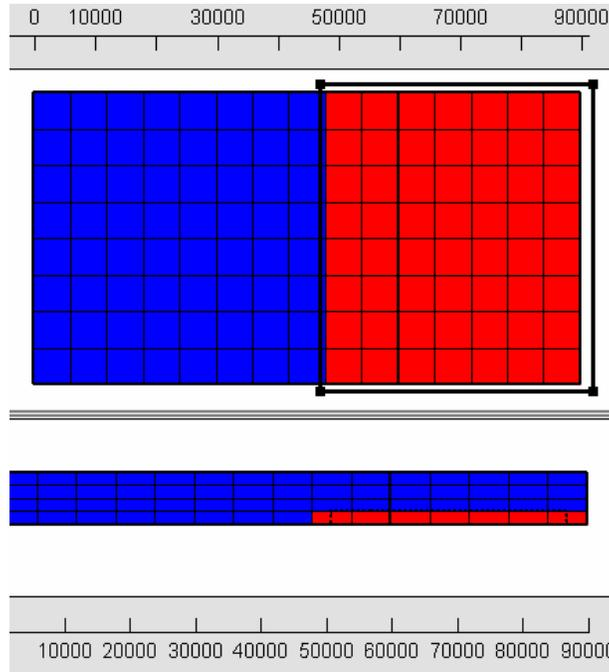

Figure 45. Active (blue) and inactive (red) areas in example.
7. In this example, the bottom layer to the right of an X coordinate of 48000 is inactive. To set this, first draw an object on the top view of the model enclosing this area (fig. 45). In the **Object Properties** dialog box, leave the **Elements** radio button checked, set the object's **Name** to "Inactive_Area", check the **Set values of enclosed elements** checkbox and set the **Higher Z-coordinate** to 100. On the **Data Sets** tab, check the checkbox for **Active** and set the formula to "False." After closing the **Object Properties** dialog box, color the grid with the **Active** data set and set the selected layer to the bottom layer. Check that the inactive area is restricted to the bottom layer (fig. 45). Using the mouse cursor, right click on the top view of the model and select **Hide** to hide the "Inactive_Area" object.